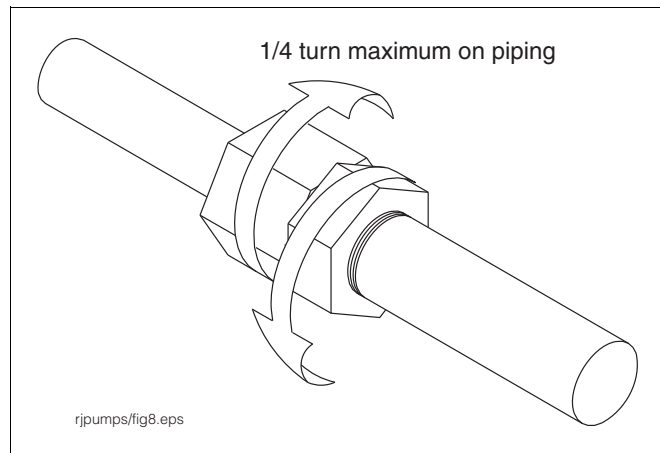

Figure 11. Loosening Locking Nut
4. Loosen the clinch assembly on the column pipe by unscrewing the set screw in the side of locking nut, then backing off the locking nut (see Figure 11).